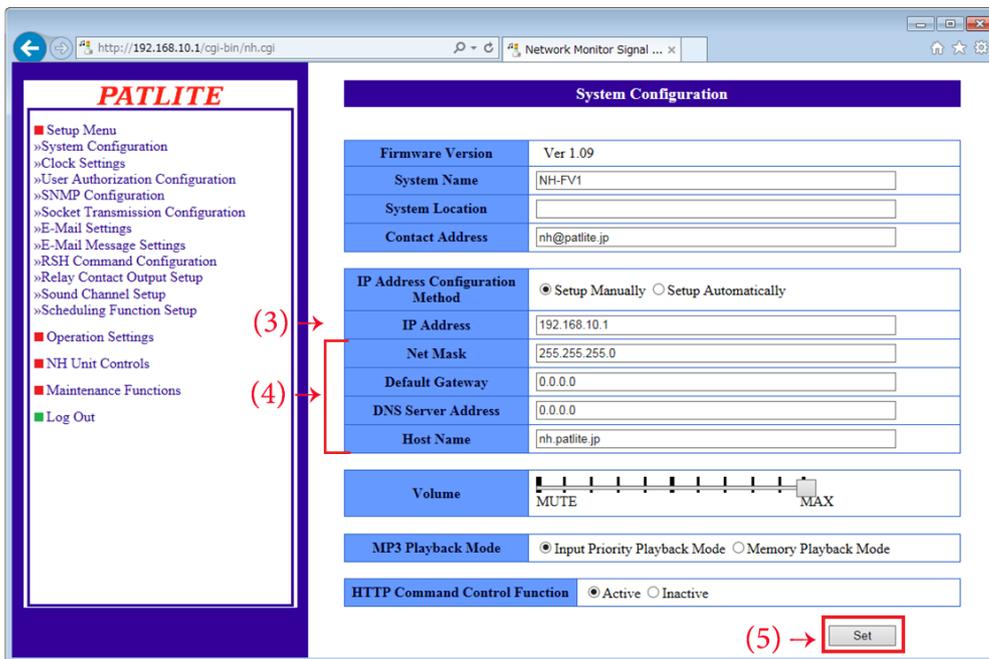

Figure 2.7.2-2 System Setup Screen
- (6) In order to activate the setting parameters, click the "Network Reboot" button. (Refer to "Figure 2.7.2-3")